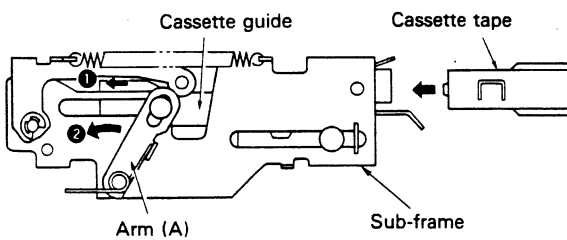

Fig. 12
1. When a cassette is inserted, the cassette guide moves in the direction indicated by arrow ① in Figure 12, moving arm (A) at its fulcrum in the direction indicated by arrow ②.